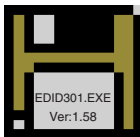

Figure 1 Diskette with EDID301.EXE
3. EDID301.EXE program (3138 106 10103) shown as Fig. 1